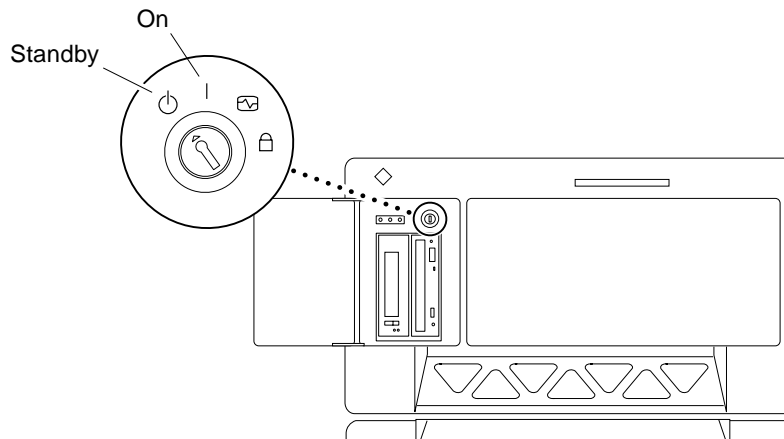

FIGURE 1-24 Keyswitch Standby and On Positions
1. **Ensure that the keyswitch is in the Standby position (FIGURE 1-24).**
6. Turn the keyswitch to the on position (FIGURE 1-24).